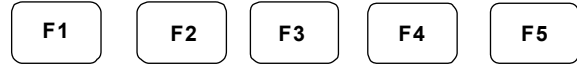
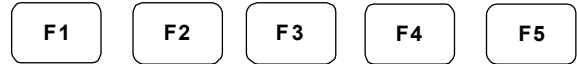

Figure 8-5. Setup Menu
Figure 8-6. Pressure-Transducer Configuration Screen
1. At the setup menu (Figure 8-5), press F1 (Pres.). The pressure-transducer configuration screen displays (Figure 8-6).